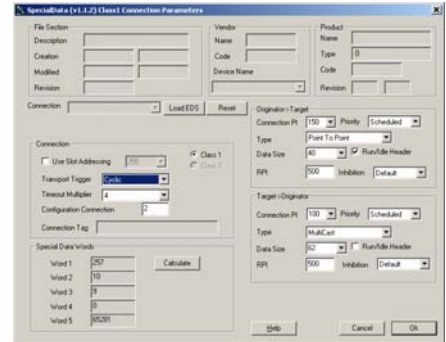

Figure 4
Next, select the "MsgParameters" button to open the "SpecialData" utility (Figure 4). This utility allows you to enter or modify the necessary parameters to configure the actual Ethernet/IP Class1 connection. First enter the Connection Points the connection. The connection point is related to but not the same as the K-Tron Address specified in the K-Tron configuration utility. Specify parameters for Originator to Target (OT) and Target to Originator (TO) connections.